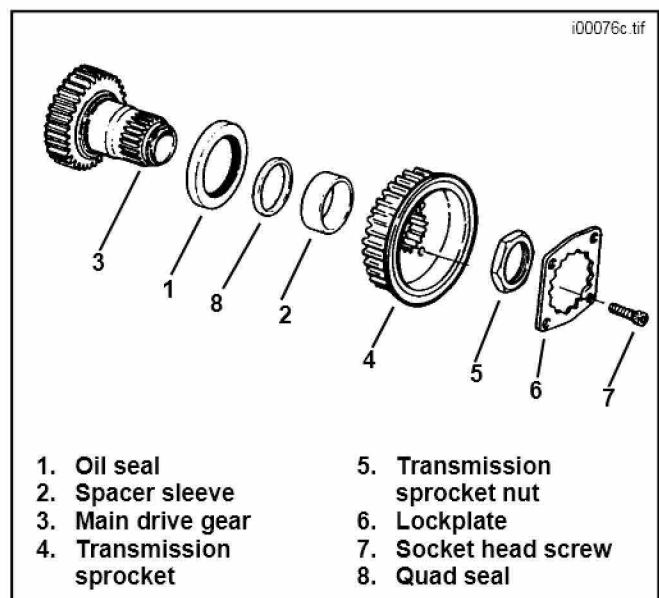
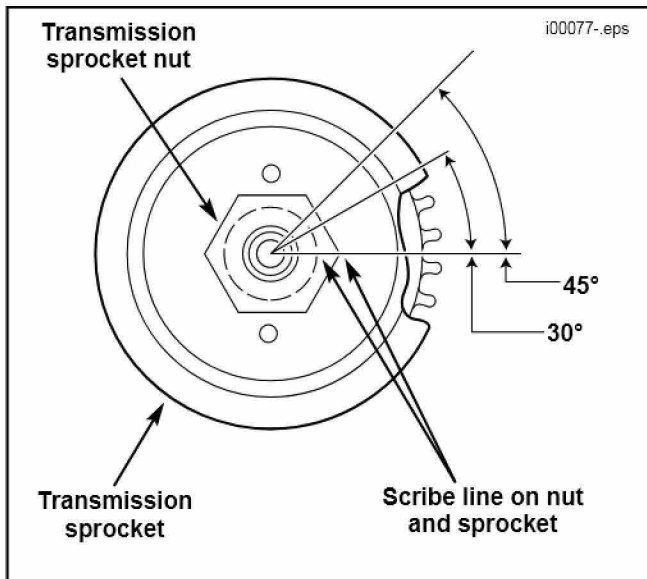

Figure 1. Transmission Sprocket Components
Figure 2. Final Tightening Of Transmission Sprocket Nut
3. See Figure 1. Install new oil seal (1) in bore of transmission housing (right crankcase half on XL models). Concave (hollow) side of seal faces inboard.
4. Install quad seal (8) on main drive gear shaft (3). Apply a small amount of appropriate H-D transmission lubricant to outside diameter surface of new spacer sleeve (2). Install new spacer sleeve (2), with chamfer facing inboard, over main drive gear (3)
5. Install new transmission sprocket (4) onto main drive gear shaft (3).
6. Apply a few drops of Loctite Threadlocker 262 (red) to the left-handed threads of new transmission sprocket nut (5). Apply a light film of oil to the flanged side (mating surface) of sprocket nut (5). Do not let oil contaminate the thread locking compound.
7. Lock transmission sprocket with SPROCKET LOCKING TOOL, Part No. HD-41184. Position nut (5) with flanged side facing transmission sprocket (4). Turn the nut counterclockwise to install it onto main drive gear (3). Using MAINSHAFT LOCKNUT WRENCH, Part No. HD-94660-37B, and a torque wrench, tighten the nut to 50 ft-lbs.
8. See Figure 2. Scribe a line on the transmission sprocket nut and continue the line on the transmission sprocket as shown.
10. See Figure 1. Install lockplate (6) over nut (5) such that two of lockplate's four drilled holes (diagonally opposite) align with sprocket's (4) two tapped holes. Lockplate is shaped to fit around the six corners of nut. Lockplate can be rotated to a number of positions, and can be positioned with either side facing sprockets, to allow for easy alignment.
11. If lockplate will not align with holes, tighten nut to 45° maximum as shown in Figure 2.